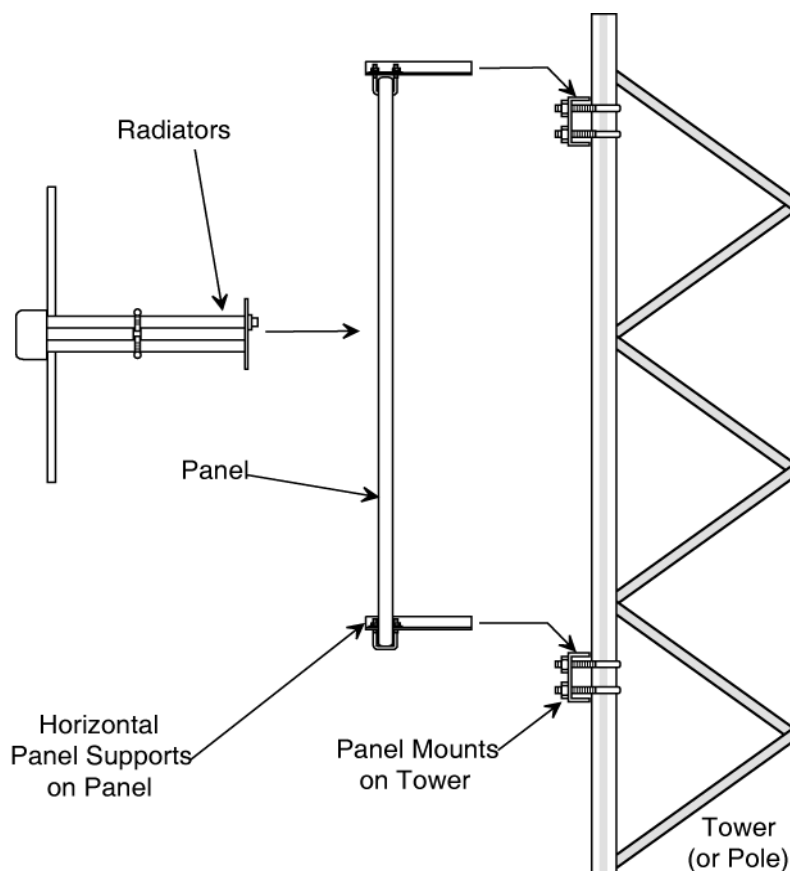
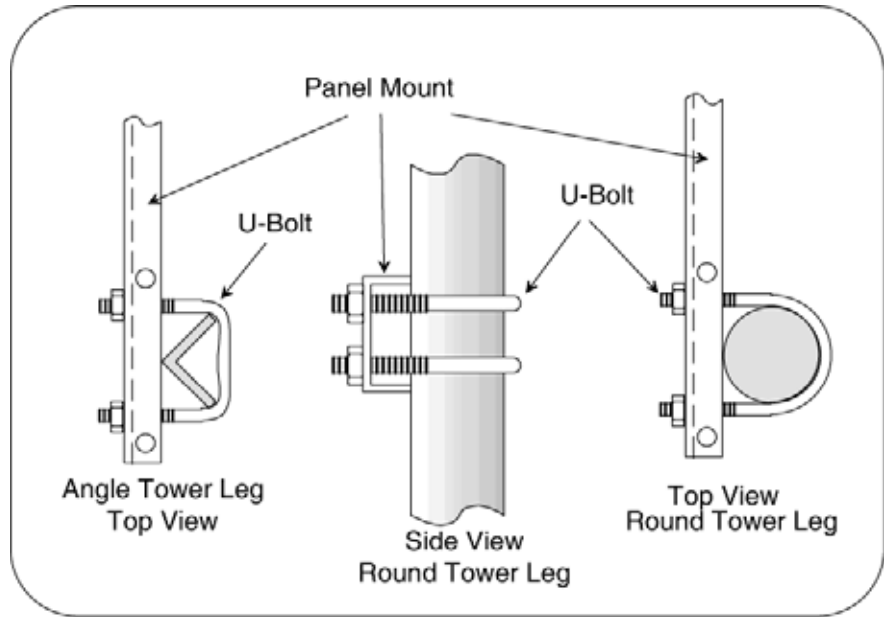
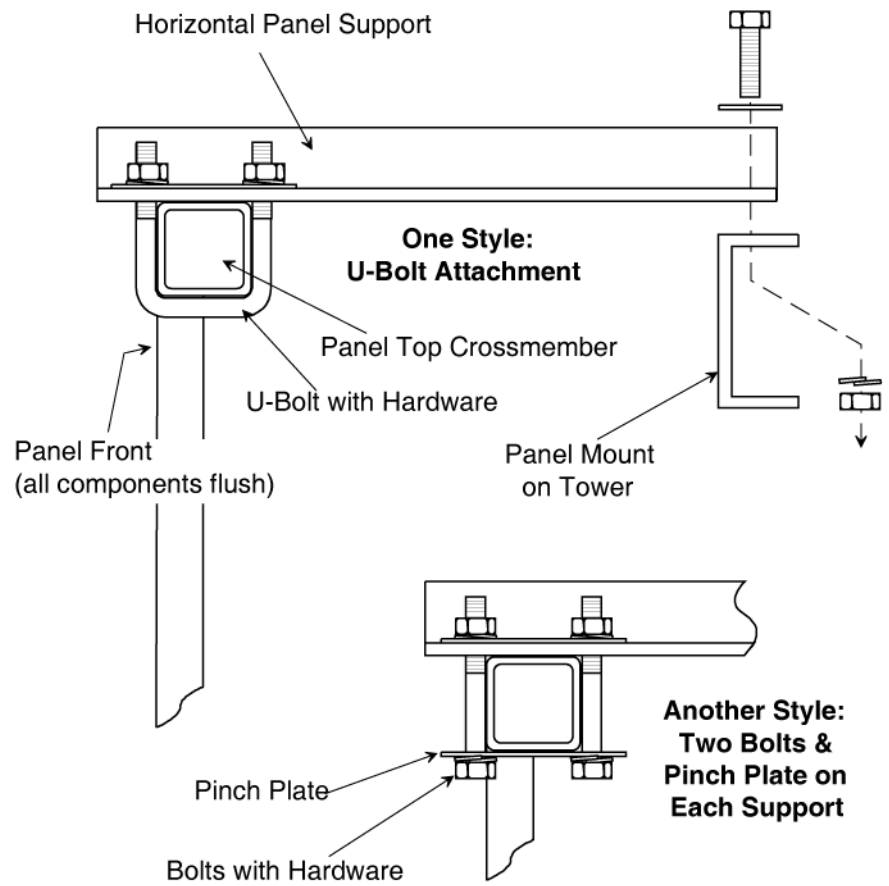

Figure 1. Typical Panel Installation on Tower, Overall Side View
Figure 2. Typical Panel Mount Installation on Tower
Figure 3. Typical Horizontal Panel Support Details
Mounting systems for panel antennas can be complex and will vary with the panel style and the tower style. Figure 1 shows an overall view of how the pieces fit together. In general, there are two major sets of components: the panel mounts, which you will attach to the tower (Detail in Figure 2 on page 4), and the horizontal panel supports, which you will attach to the panels (Detail in Figure 3 on page 4). When the panel is lifted into place on the tower, you will secure the panel supports to the panel mounts.
- f. Install the panel mounts as shown in the installation drawing and Figure 2 on page 4.
Various designs (Figure 3 on page 4) use U-bolts or bolts and pinch-plates to secure the panel to the span brackets. Your installation drawing will specify which design your antenna uses.
- b. Attach a pair of horizontal panel supports to the top square-tube crossmember of the panel as shown in Figure 3.